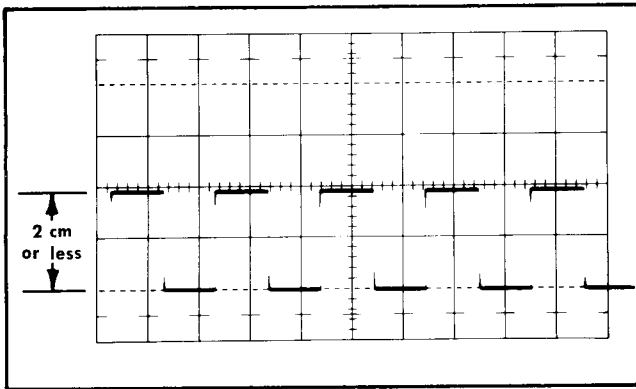

Fig. 5-2. Checking the VARIABLE control 2.5:1 ratio. This display is within the 2-cm maximum amplitude requirement.
- Check—Maximum deflection of 2 cm or less (2.5:1 range, see Fig. 5-2).